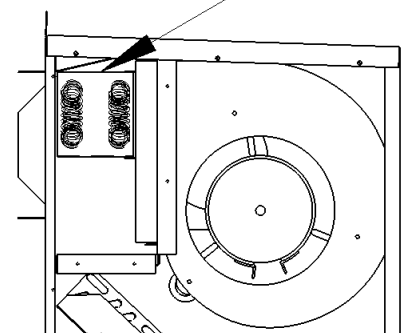

Fig. 4
7. Hang the blower assembly on the two keyhole screws and fasten the blowers with the four screws, as mentioned in step 3. Reattach the blower motor module. The installation should reflect the picture in Fig. 4.